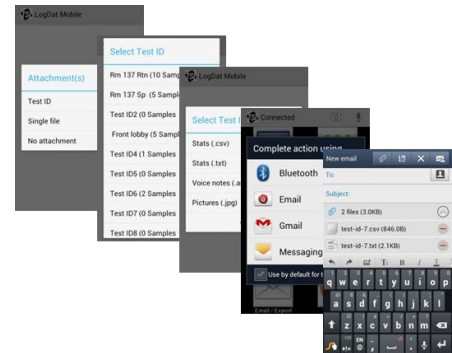

Figure 8. Exporting Stored Data
- Export data to SD card, Gmail, Google Drive or via Bluetooth (Figure 8)